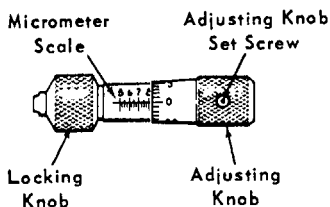

FIGURE 19
4. With the Quick-Setting Wrench in place on the Gage, loosen the Adjusting Knob Set Screw (see Figure 19) with a .050" hex wrench.